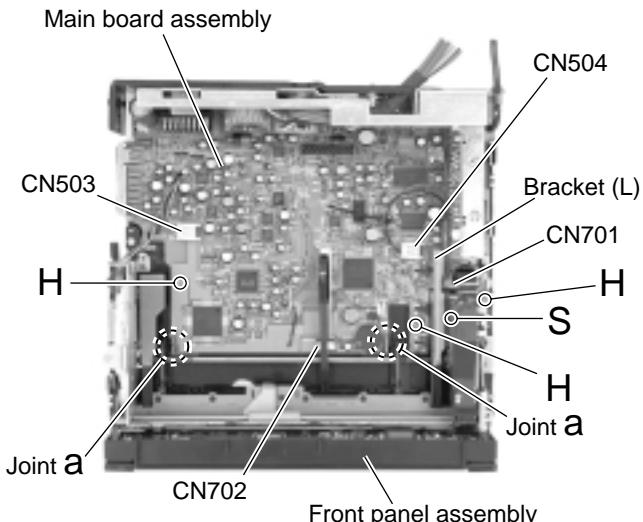

Fig.6
■ Removing the main board assembly (See Fig.6 to 8)